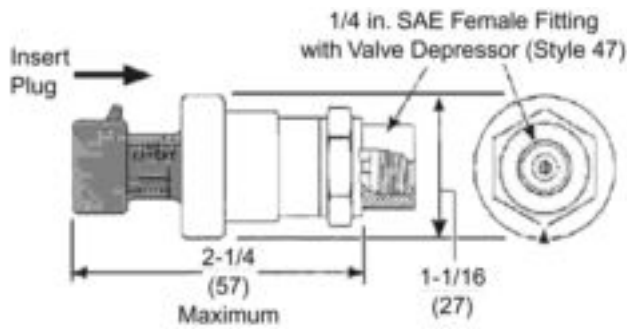

FIGURE 2 - P399 Pressure Transducer
4. Attach the pressure transducers to the connection tee (provided in accessory). The pressure transducer has a 1/4 In. SAE female flare with Schrader valve depressor for mounting to the tee. See Figure 2.